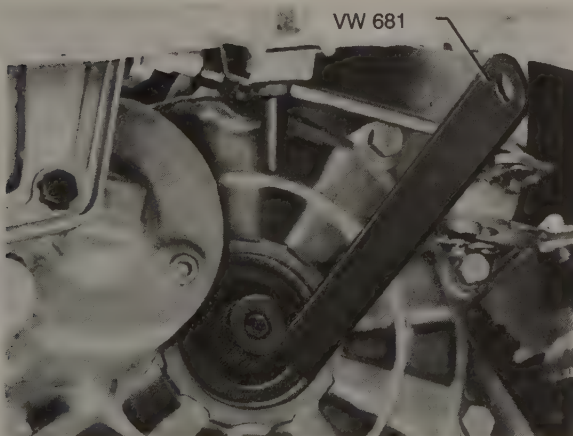

Fig. 6-5. Drive flange oil seal being removed. Volkswagen special tool VW 681 shown.
4. Pry the faulty seal from its recess using a hooked seal removal tool, as shown in Fig. 6-5, or a large screwdriver.